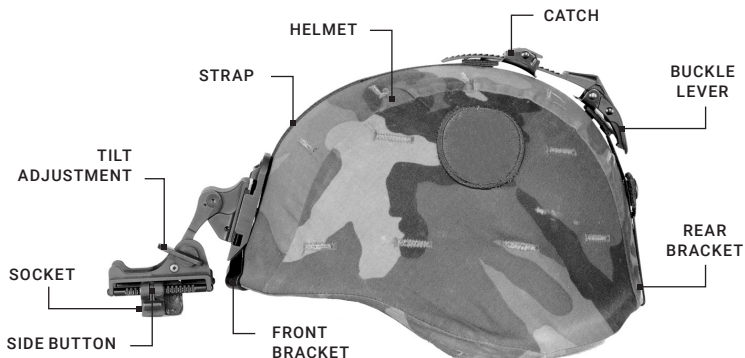

FIGURE 2-7. HELMET MOUNT FEATURES
1. Remove the mount assembly from the carrying case. Refer to Figure 2-7 to review helmet mount features.
2. With the catch flipped forward, place the strap over the top of the helmet and center it. Hook the rear bracket onto the back of the helmet. Center the front bracket, hook in on the front of the helmet, and hold it in place (See Figure 2-7).
3. Place the PVS-7 in the socket of the helmet mount (Figure 2-7). To set your eye relief focus, press the side buttons and carefully move the goggles forward or backward until the eyecups are comfortably sealed around the eyes. Readjust the helmet straps as required.
4. Turn the power switch ON. Adjust the tilt by using the tilt adjustment knob (Figure 2-7) until you reach a comfortable viewing angle.
8. To adjust the eye relief distance, press the socket side button (Figure 2-7) and slide the PVS-7 forward or backward until you are able to observe the full field of view. Adjust the diopter rings for the clearest image.